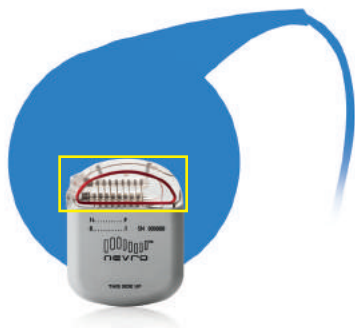

Figure 1
- Figure 1 shows that the top of the Implant (in yellow box) is at the center of the Charging Coil.